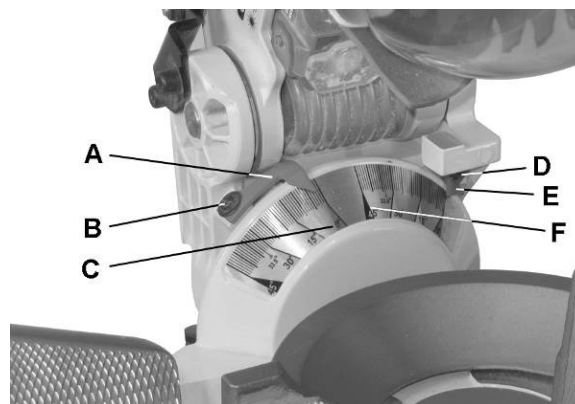

Figure 8
2. With cross-point screwdriver, loosen two *bevel indicator screws* (B, D, Fig. 8).
3. Adjust *bevel indicators* (A, E, Fig. 8) to the “0” marks (C, F, Fig. 8) on the bevel scale and retighten the screws (B, D).